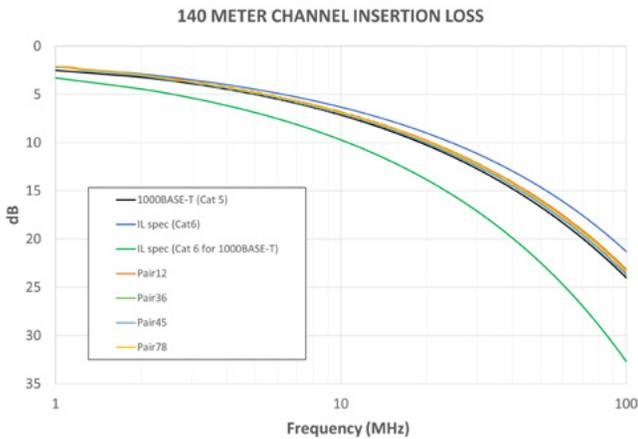
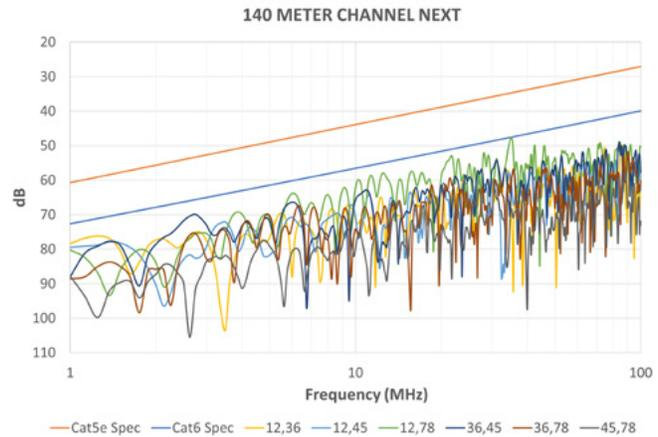
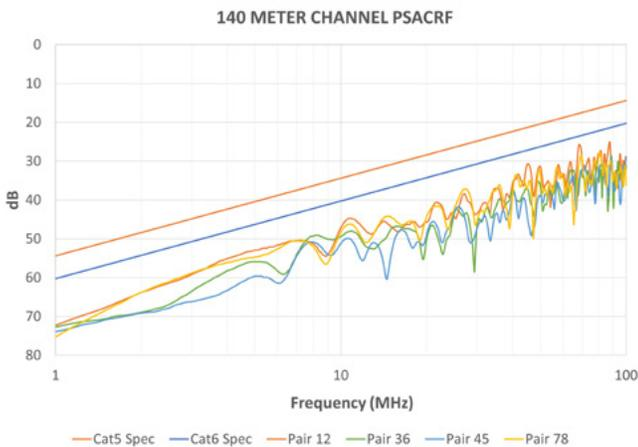
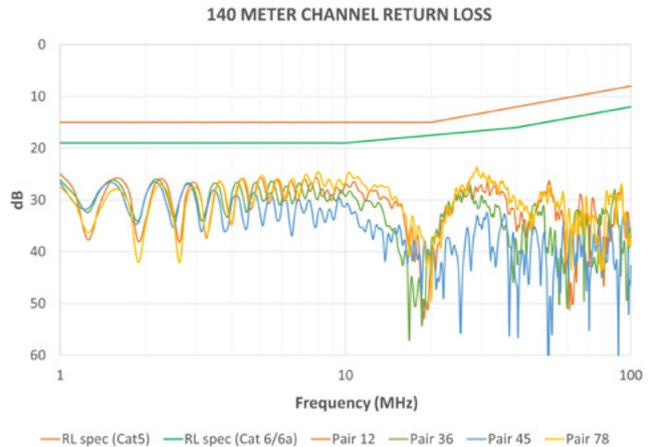

Figure 9: 140-meter channel insertion loss (130-meter 22 AWG Category 6 cable, plus 10 meters of 24 AWG Category 6 patch cords)
Figure 10: 140-meter channel NEXT (130-meter 22 AWG Category 6 cable, plus 10 meters of 24 AWG Category 6 patch cords)
Figure 11: 140-meter channel PSACRF (130-meter 22 AWG Category 6 cable, plus 10 meters of 24 AWG Category 6 patch cords)
Figure 12: 140-meter channel Return Loss (130-meter 22 AWG Category 6 cable, plus 10 meters of 24 AWG Category 6 patch cords)
Measurements of the critical transmission characteristics of the 140-meter channel (130-meter 22 AWG Category 6 cable with 10 meters of 24 AWG Category 6 patch cords) are shown in **Figure 9**, **Figure 10**, **Figure 11**, and **Figure 12**. These graphs compare both the actual 1000BASE-T specification and the theoretical specification derived from the improved performance of Category 6 and 6A cables.
- NEXT, PSACRF, and Return Loss (**Figure 10**, **Figure 11**, and **Figure 12**) all far exceed the 1000BASE-T specification
- Insertion loss (**Figure 9**) minimally fails the 1000BASE-T insertion loss limit by 1.8 dB at 100 MHz but far exceeds the theoretical Category 6 limit